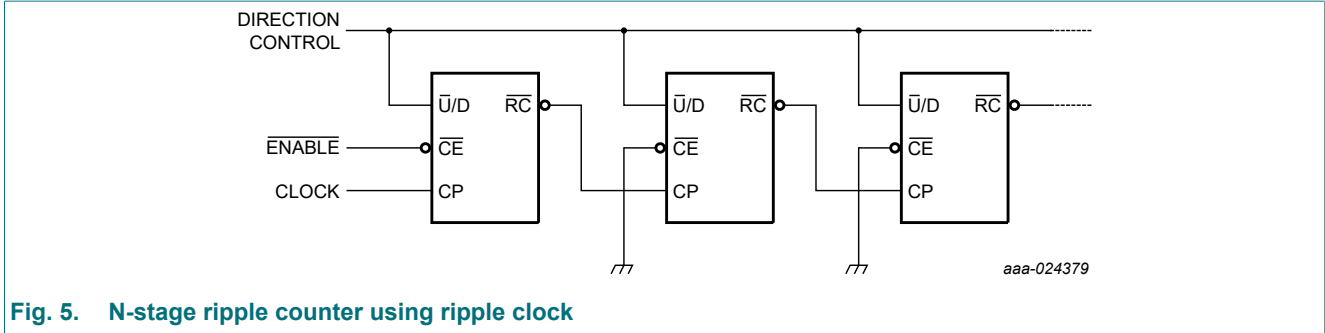
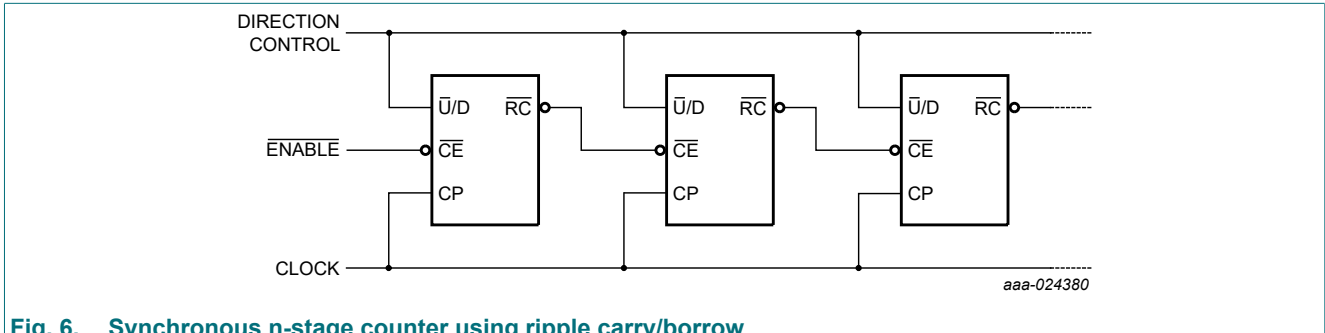
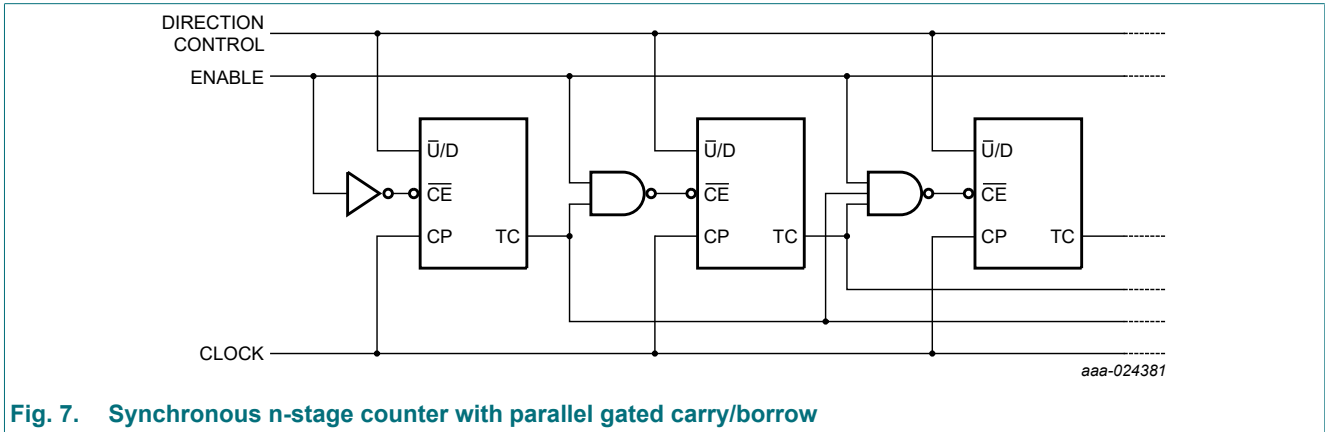

Fig. 5. N-stage ripple counter using ripple clock
Fig. 6. Synchronous n-stage counter using ripple carry/borrow
Fig. 7. Synchronous n-stage counter with parallel gated carry/borrow
The 74HC191 is an asynchronously presettable 4-bit binary up/down counter. It contains four master/slave flip-flops with internal gating and steering logic to provide asynchronous preset and synchronous count-up and count-down operation. Asynchronous parallel load capability permits the counter to be preset to any desired value. Information present on the parallel data inputs (D0 to D3) is loaded into the counter and appears on the outputs when the parallel load (\overline{PL}) input is LOW. This operation overrides the counting function. Counting is inhibited by a HIGH level on the count enable (\overline{CE}) input. When \overline{CE} is LOW internal state changes are initiated synchronously by the LOW-to-HIGH transition of the clock input. The up/down ($\overline{U/D}$) input signal determines the direction of counting as indicated in the function table. The \overline{CE} input may go LOW when the clock is in either state, however, the LOW-to-HIGH \overline{CE} transition must occur only when the clock is HIGH. Also, the $\overline{U/D}$ input should be changed only when either \overline{CE} or CP is HIGH. Overflow/underflow indications are provided by two types of outputs, the terminal count (TC) and ripple clock (\overline{RC}). The TC output is normally LOW and goes HIGH when a circuit reaches zero in the count-down mode or reaches '15' in the count-up-mode. The TC output will remain HIGH until a state change occurs, either by counting or presetting, or until $\overline{U/D}$ is changed. Do not use the TC output as a clock signal because it is subject to decoding spikes. The TC signal is used internally to enable the \overline{RC} output. When TC is HIGH and \overline{CE} is LOW, the \overline{RC} output follows the clock pulse (CP). This feature simplifies the design of multistage counters as shown in Fig. 5 and Fig. 6. In Fig. 5, each \overline{RC} output is used as the clock input to the next higher stage. It is only necessary to inhibit the first stage to prevent counting in all stages, since a HIGH on \overline{CE} inhibits the \overline{RC} output pulse. The timing skew between state changes in the first and last stages is represented by the cumulative delay of the clock as it ripples through the preceding stages. This can be a disadvantage of this configuration in some applications. Fig. 6 shows a method of causing state changes to occur simultaneously in all stages. The \overline{RC} outputs propagate the carry/borrow signals in ripple fashion and all clock inputs are driven in parallel. In this configuration the duration of the clock LOW state must be long enough to allow the negative-going edge of the carry/borrow signal to ripple through to the last stage before the clock goes HIGH. Since the \overline{RC} output of any package goes HIGH shortly after its CP input goes HIGH there is no such restriction on the HIGH-state duration of the clock. In Fig. 7, the configuration shown avoids ripple delays and their associated restrictions. Combining the TC signals from all the preceding stages forms the \overline{CE} input for a given stage. An enable must be included in each carry gate in order to inhibit counting. The TC output of a given stage is not affected by its own \overline{CE} signal therefore the simple inhibit scheme of Fig. 5 and Fig. 6 does not apply. Inputs include clamp diodes. This enables the use of current limiting resistors to interface inputs to voltages in excess of V_{CC} .